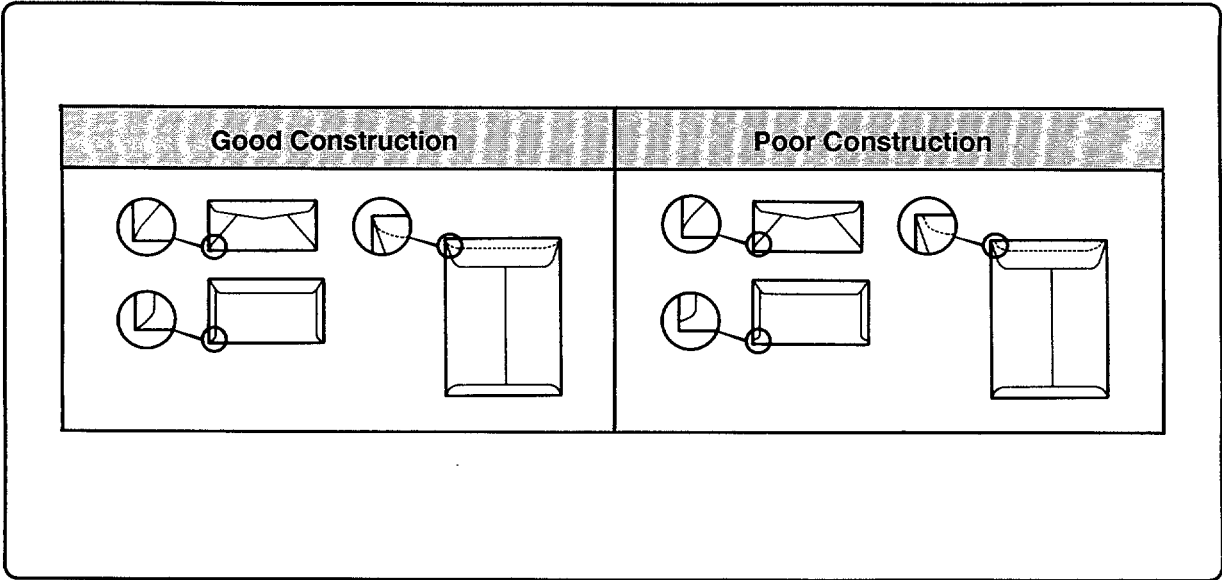

Figure 2-3. Good and Poor Envelope Construction
A wide variety of envelopes have been tested and most have performed acceptably. However, some envelopes will not feed through the printer because of their construction. A suitable envelope should have not more than two thicknesses of paper along the leading edge (the edge that enters the printer first, see Figure 2-3) and the leading edge should be straight with a sharp, well-creased fold. Flimsy envelopes lacking stiffness or those having curved leading edges will not reliably feed into the printer. Also, envelopes having “baggy” construction may wrinkle while going through the printer’s fuser. Poor results also occur when envelopes are folded smaller than normal, causing a thick leading edge near a corner. The folding accuracy of some manufacturers’ envelopes may vary enough to cause some envelopes to feed well and other, apparently similar, envelopes to jam.
- Poorly manufactured envelopes with leading edges having more than two thicknesses of paper and that are not consistently square and straight (see Figure 2-3).